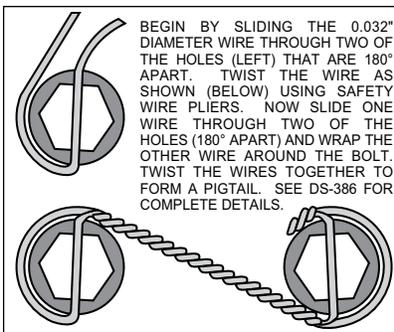

Figure 3. Safety Wire Diagram
•With the larger I.D. side of the rotor (5) facing away from the hat (6), bolt rotor (5) to hat (6) through the backside of the rotor using washers (7) and bolts (8). Apply red *Loctite*® 271 to the bolt threads and torque to 155 **in-lb** using a criss-cross pattern. For an added measure of security, the bolts may be safety wired using standard 0.032 inch diameter stainless steel safety wire as shown in Figure 3. Please refer to Wilwood's data sheet DS-386 (available at www.wilwood.com/Pdf/DataSheets/ds386.pdf) for complete safety wire installation instructions.